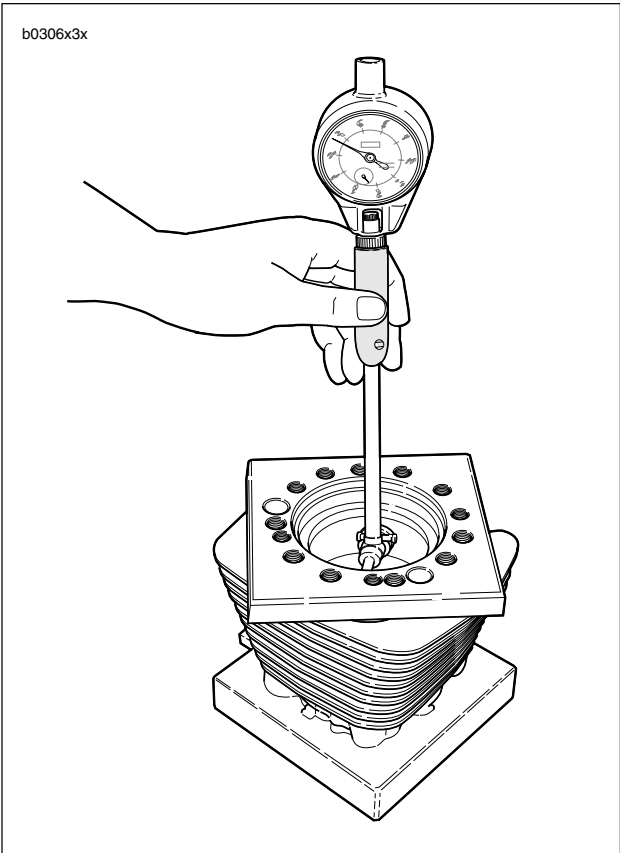

Figure 3-32. Measuring Cylinder Bore Using Torque Plates (Part No. HD-33446A)
- 2. See Figure 3-32. Install a head and base gasket, and CYLINDER TORQUE PLATES (Part No. HD-33446A) and XL EVOLUTION TORQUE PLATE BOLTS (Part No. HD-33446-86). Tighten the bolts using the same method used when installing the cylinder head screws. See 3.5 CYLINDER HEAD.